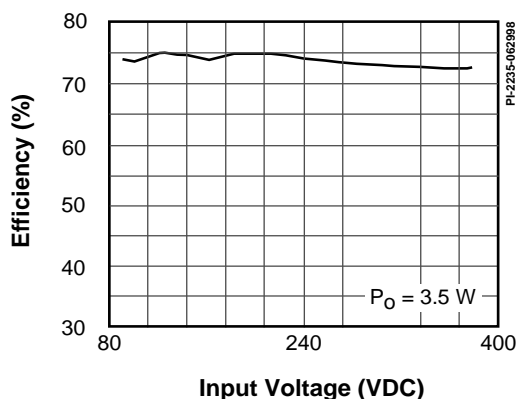

Figure 7. Efficiency vs. Input Voltage, 3.5 W Output.
**Efficiency (Line Dependent).** Efficiency is the ratio of output power to the input power. The curve in Figure 7 shows how the efficiency changes with input voltage using a 3.5 W load. The efficiency is greater than 72% throughout the input range.